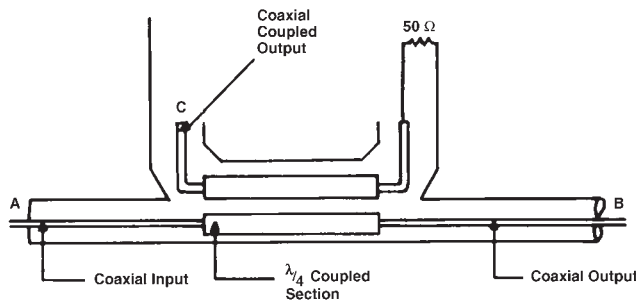

Figure 1. Diagram of a typical coaxial directional coupler
The basic construction of a coupled-line directional coupler can be seen in Figure 1, which illustrates a typical coaxial-line, microwave directional coupler such as might be used for microwave applications. It consists of two parallel striplines coupled over a length of approximately one-quarter wavelength. The mainline input (A) and output (B) coaxial lines are connected to one stripline; the other stripline is terminated in  $Z_0$  at one end, and is